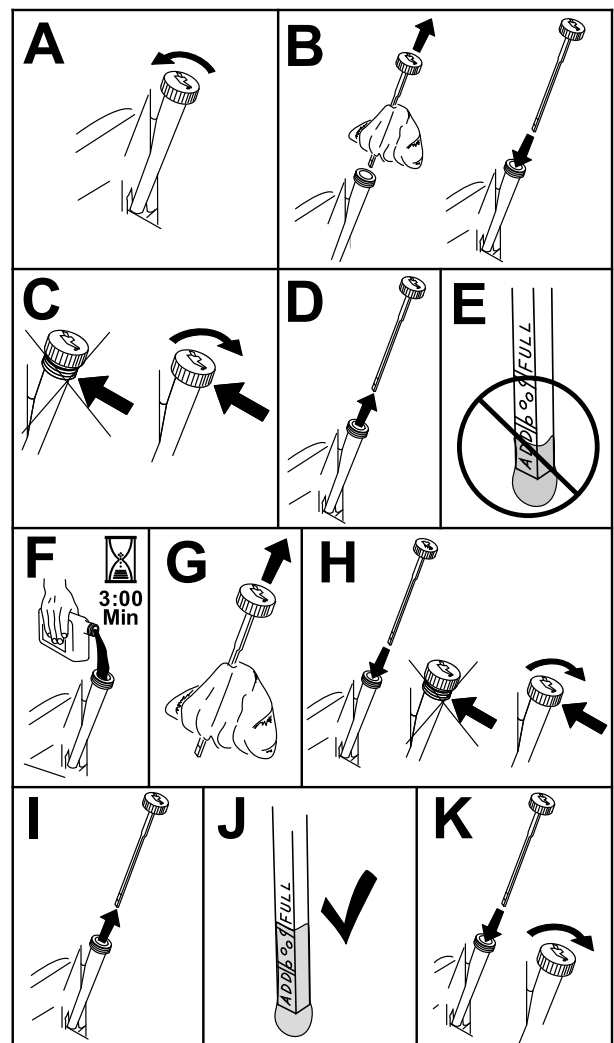

Figure 33
3. To keep dirt, grass clippings, etc., out of the engine, clean the area around the oil-fill cap and dipstick before removing it (Figure 33).